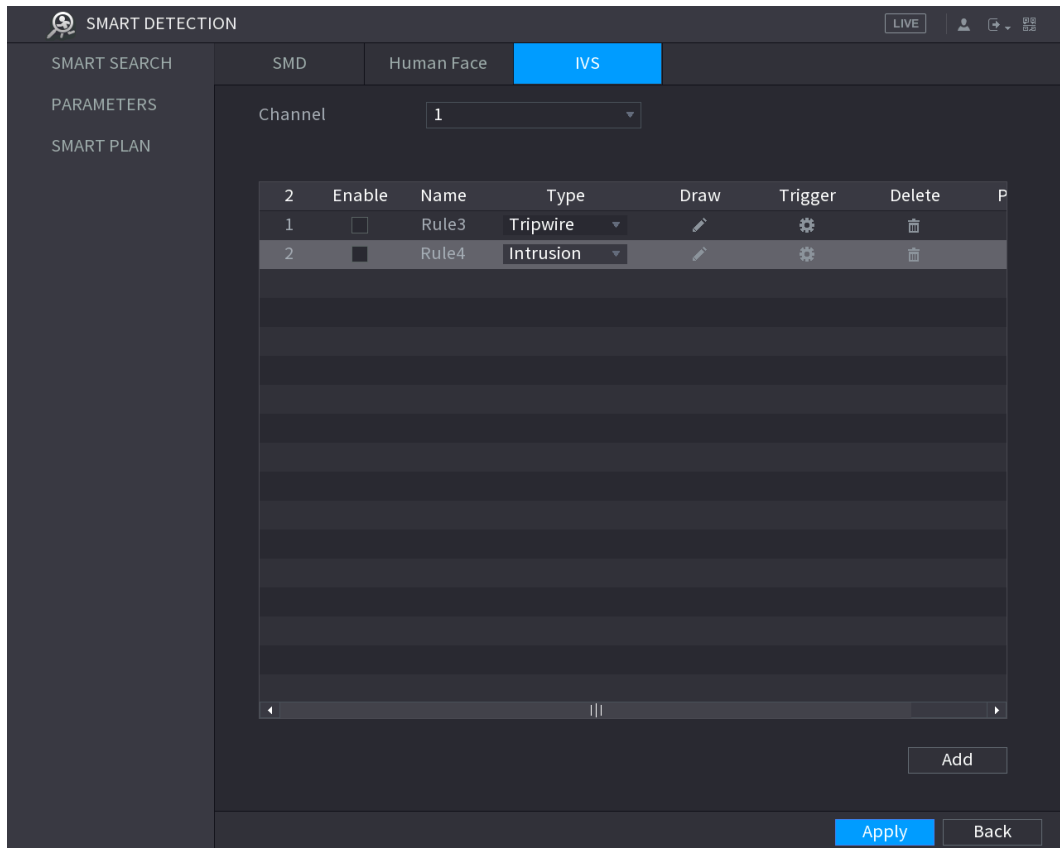

Figure 5-156
Step 1 On the rule line that you added, in the **Type** list, select **Intrusion**. See Figure 5-156.